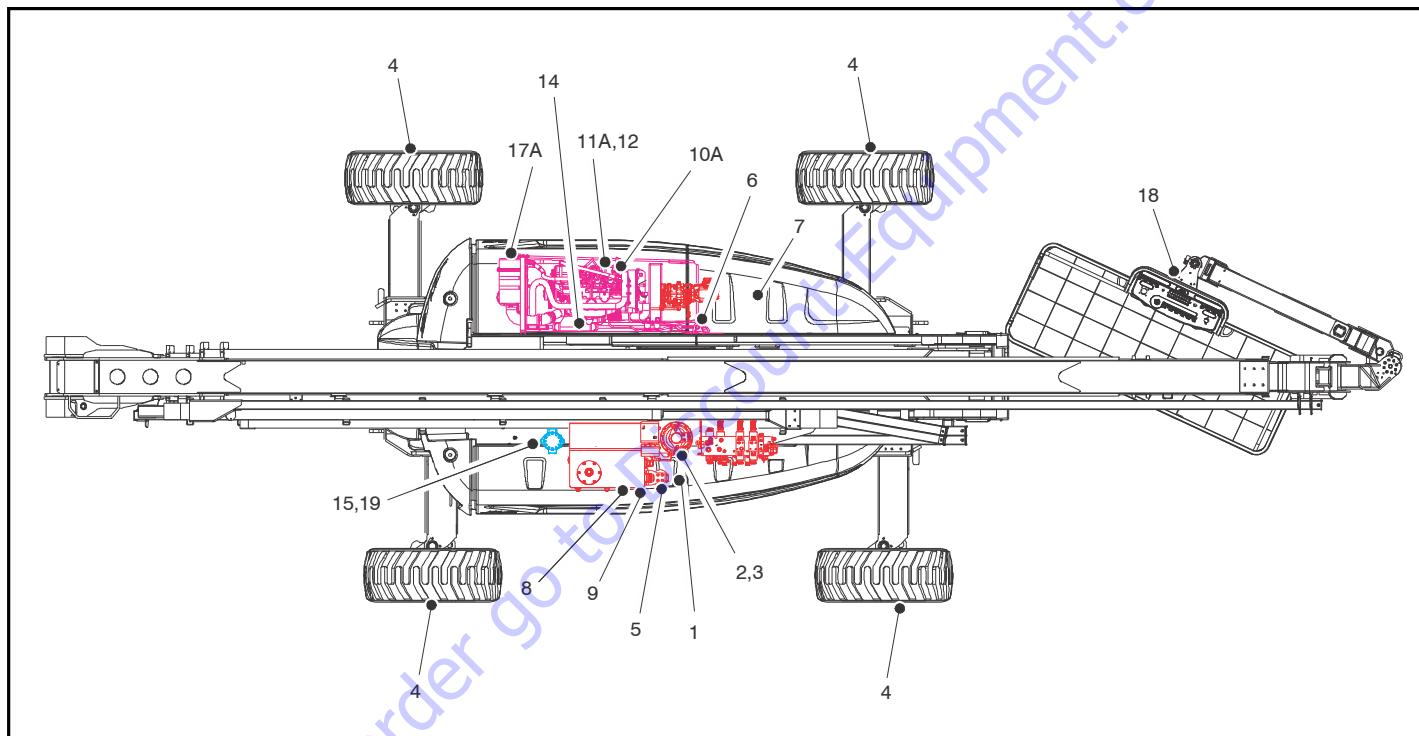

Figure 7-5. Operator Maintenance and Lubrication Diagram - Deutz 2011/CAT Engines
**NOTE:** The following numbers correspond to those in Figure 7-5., Operator Maintenance and Lubrication Diagram - Deutz 2011/CAT Engines.